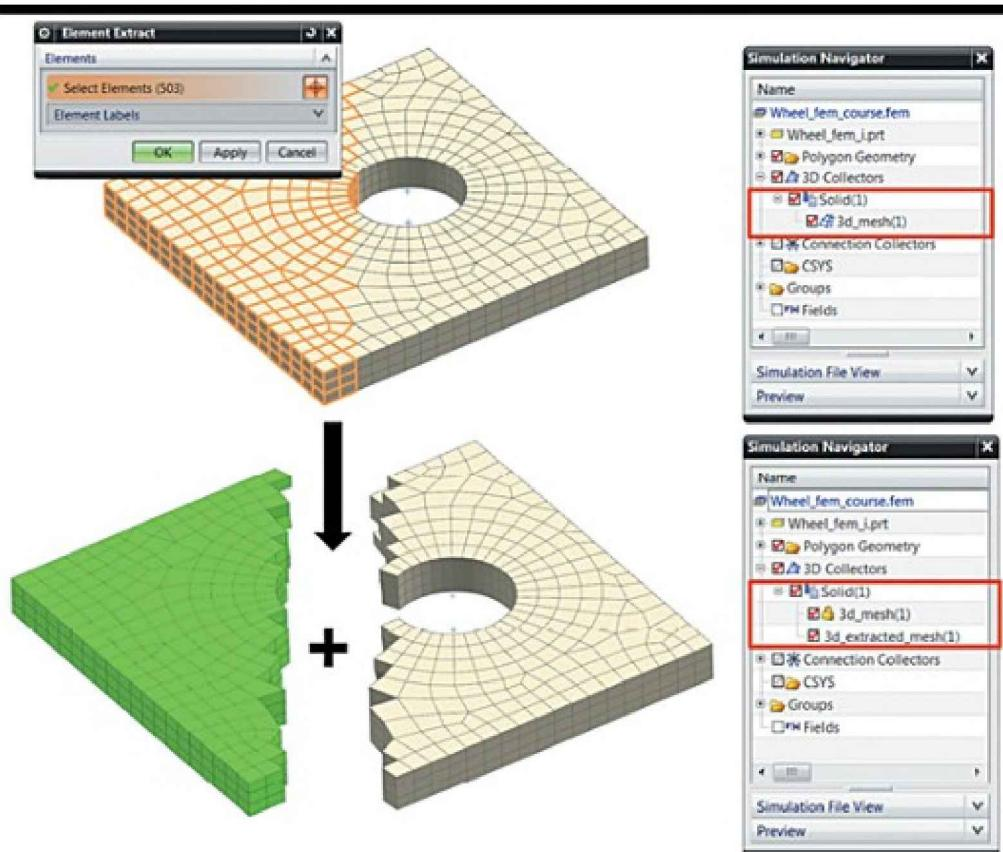

Figure 3.48. Extracting elements
- Use the **Element Extract** to extract a set of elements from an existing mesh to a new mesh. You can use this command if you need to modify the physical properties of elements in the new mesh (Figure 3.48).